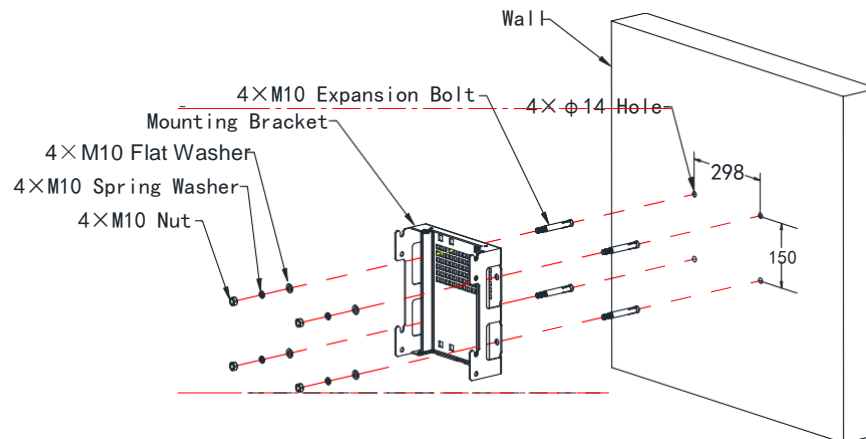

Figure 5 Mounting Bracket Installation Diagram
Step2: use hammer push 4 M10 expansion bolt into the hole of the wall, fix the mounting bracket (ADAS-S5100-5812) to the wall according the Figure 5.